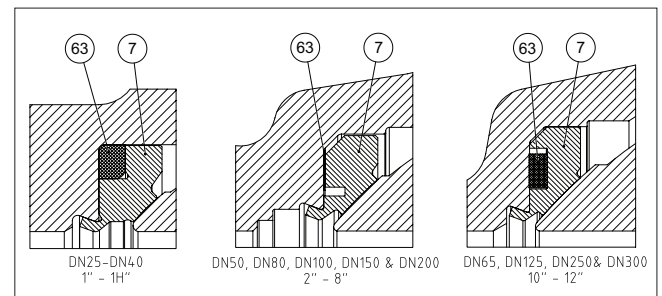

Fig. 19 P-, V- and C-seats
- **P-, V-, C- and S-seats:** Place the back seal (63) in the ball seat (7); see Figures 19 and 20. Place the seat in the body (1).